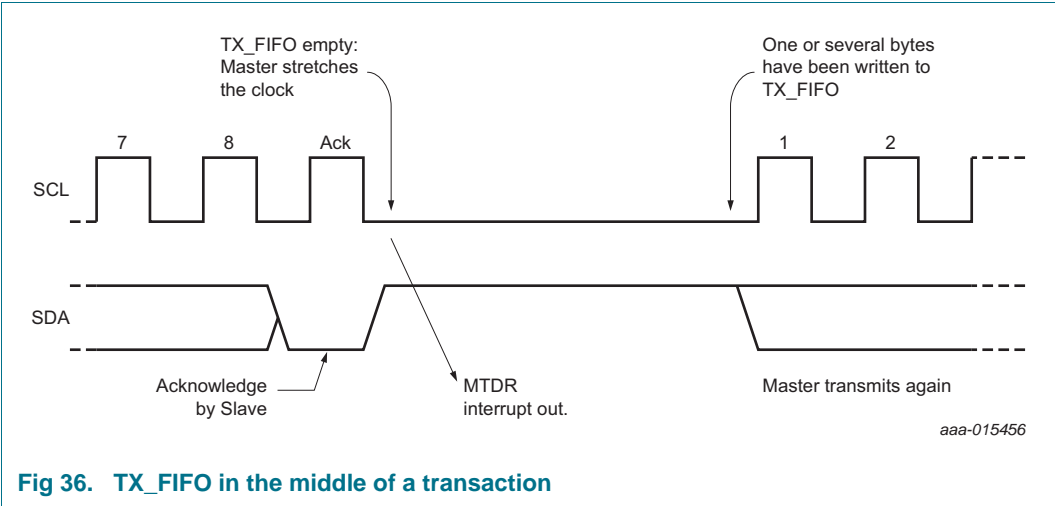

Fig 36. TX_FIFO in the middle of a transaction
- If the TX_FIFO is empty, the master will automatically stretch the clock of the previous byte (after acknowledge) until a new byte is written to the TX_FIFO as can be seen in Figure 36. This stretching after acknowledge is the case for the address + R/W byte (first) as well as for all data bytes that follow.
- If the TX_FIFO is empty, the master will automatically stretch the clock. If the TX_FIFO becomes empty, the clock will be stretched after the acknowledgement has been sent. This behavior is identical to the master transmitter as shown in Figure 36. However when the TX_FIFO is empty after sending a dummy byte (in order to receive a byte from the slave) the clock will be stretched between the 8th cycle and the Ack cycle, until at least one new byte is written to the TX_FIFO. This is shown in